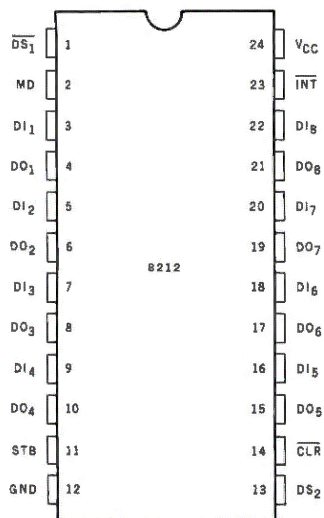

Figure 2: Pin configuration of the 8212 integrated circuit. This device is an 8-bit I/O port latch. Three of them are used in the EPROM programming circuit.
Each output port is an 8212 latch. The 8212 device is a general purpose I/O (input/output) port. The pin connections are shown in figure 2. The output of the latch is 3-state. If the mode input is high, the outputs are always enabled. When the device is selected by placing a low on $\overline{DS1}$ (active-low, device-select line) and a high on $DS2$ (active-high line), whatever data is present at the data input (DI) lines is latched and appears at the data output (DO) lines.